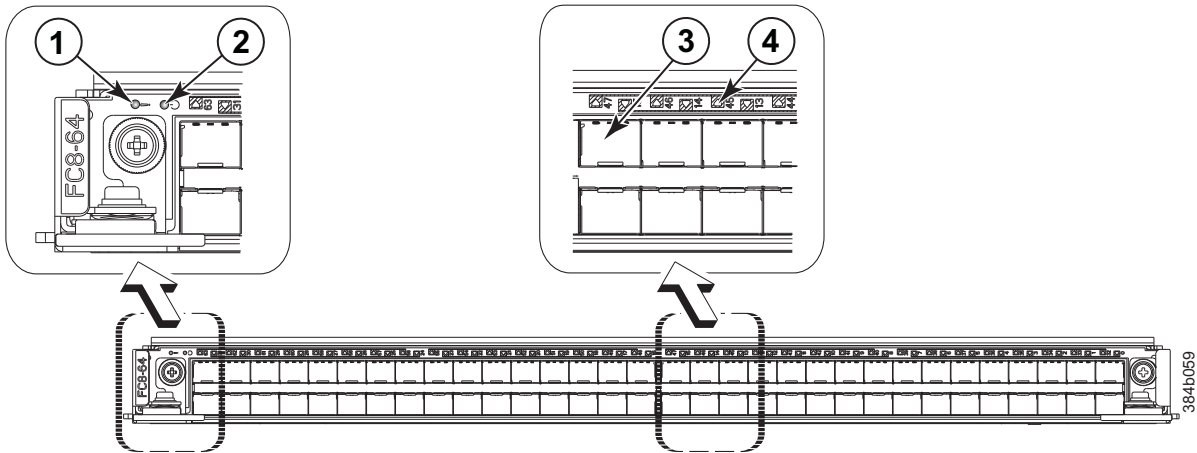

Figure 20. FC8-64 port blade
- Figure 20 on page 52 illustrates the FC8-64 port blade